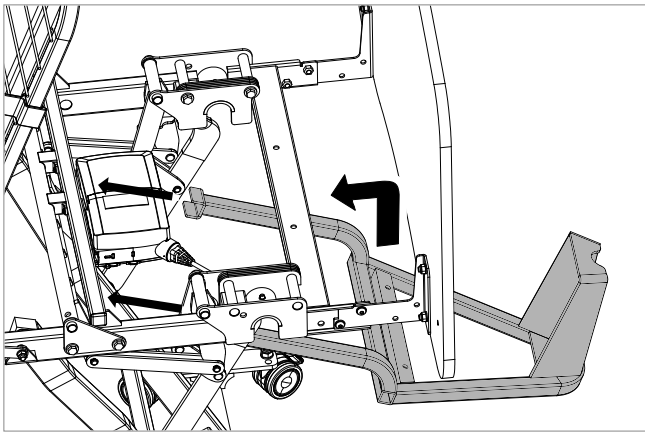

Figure 7.3
3. Place the Lifting Pole Bracket in position under the bed as shown in Figure 7.3.